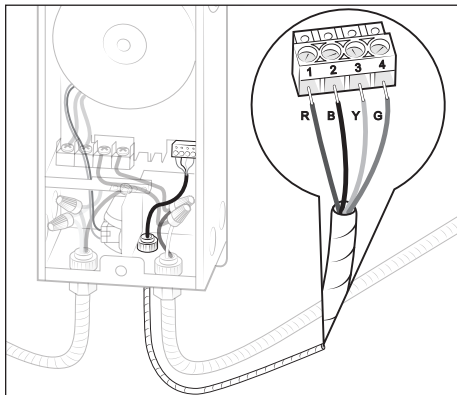

Figure 13. Connect RS-485 Wires
- RS-485 comes factory wired to the Light Controller. Connect the low voltage RS-485 communication low voltage wires to either the AquaLink RS or AquaLink EDGE automation system. First wire red (R) to 1, black (B) to 2, yellow (Y) to 3, and green (G) to 4 on the connector, see Figure 13.